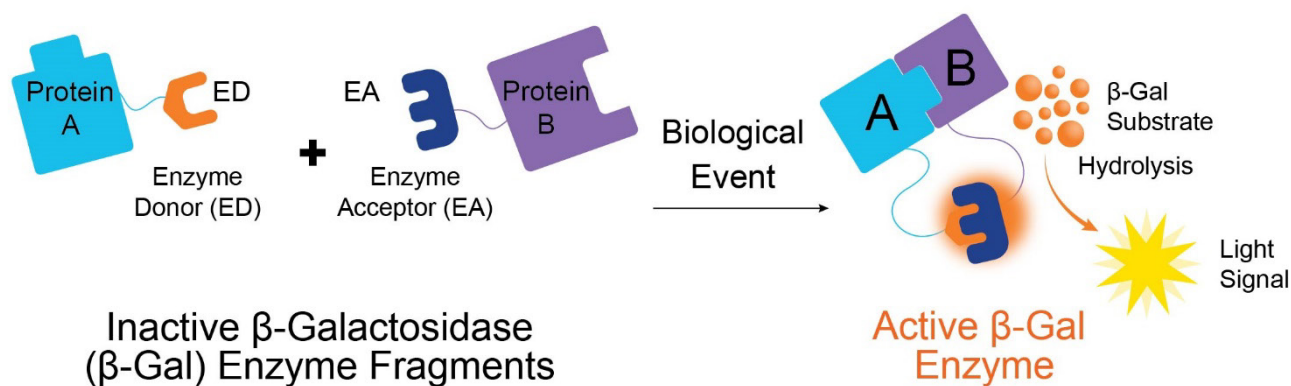

Figure 1. Enzyme Fragment Complementation (EFC) technology
PathHunter Total GPCR Internalization Assays provide a direct and qualitative measurement of internalized GPCR protein localized in early endosomes using β -galactosidase (β -gal) enzyme fragment complementation (EFC, Figure 1). EFC technology is based on the use of a split β -galactosidase (β -gal) enzyme. The two enzyme fragments are designated the Enzyme Donor (ED) and the Enzyme Acceptor (EA). Independently, these fragments do not have any β -gal enzymatic activity; however, in solution, the two components rapidly complement to form an active β -gal enzyme.